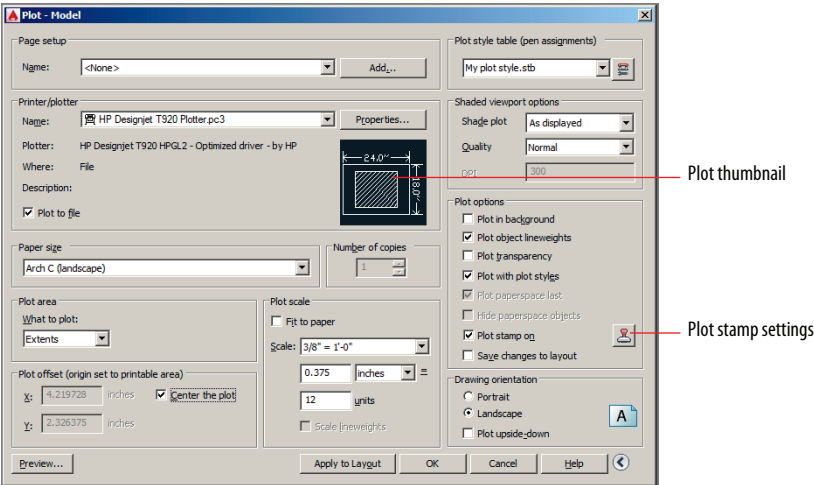
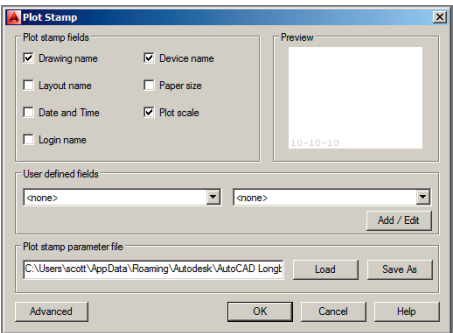

FIGURE 14.15 Configuring the Plot dialog box for output
FIGURE 14.16 Configuring the Plot Stamp feature
Offset area, deselect Fit To Paper in the Plot Scale area, and select $3/8'' = 1'-0''$ from the Scale drop-down menu. Click the More Options button to expand the dialog box. Select My plot style.stb in the Plot Style Table area. Select Plot Stamp On in the Plot Options area (see Figure 14.15).
- 5. Check Plot Stamp On and then click the Plot Stamp Settings button, as shown in Figure 14.15. Select Drawing Name, Device Name, and Plot Scale in the Plot Stamp dialog box that appears (see Figure 14.16). Click OK.